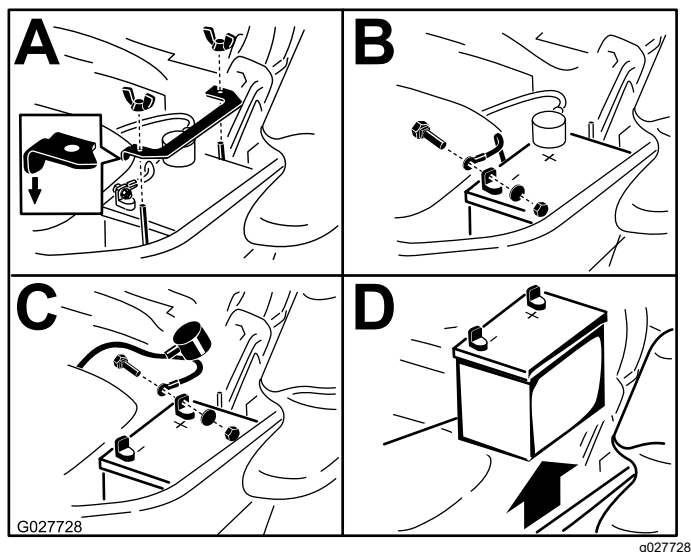

Figure 74
3. Remove the battery as shown in Figure 74.